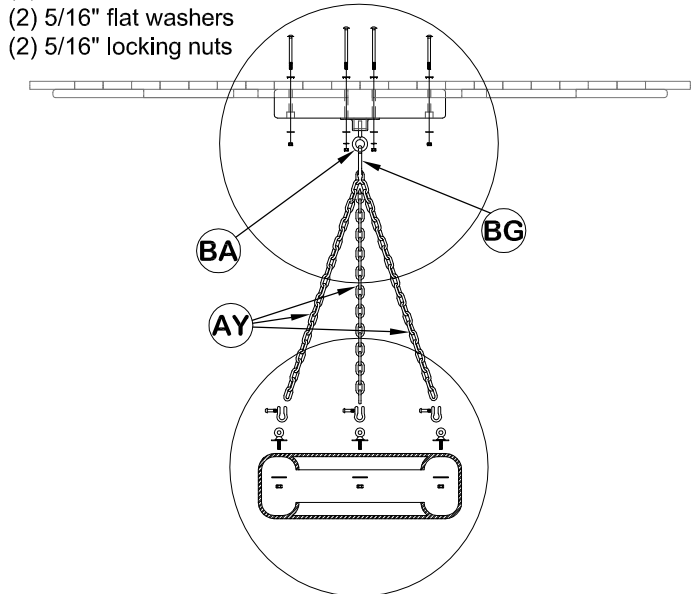

Fig. 20
- (1) 'BG' - Snap Link
Step 1: Gather AN(1), AY(3), AZ(3), BA(1), BB(3), BC(1), BG(1) and hardware bag.
Step 3: Take (2) 4" carriage bolts with anti-turn washer and place them in two outside holes in fort floor and fasten block AN. Next, take (2) 5" carriage bolts with anti-turn washer and place them in two inside holes through inside of fort and fasten tire swivel BA (Fig. 20).
Step 4: Assemble Tire Swing as shown in Fig. 19 and install it as shown in Fig. 20.
- (2) 5" carriage bolts